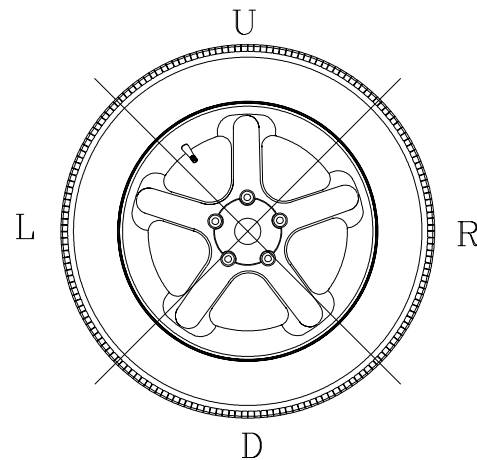

Figure 25
**C.** The wheel weight could have been placed at a wrong position. To check this, position the wheel at the correction position for the outer plane. If the wheel weight previously attached is in sector **'L'** or **'R'** ( Figure 25), move the wheel weight up about 1" (2.54cm).